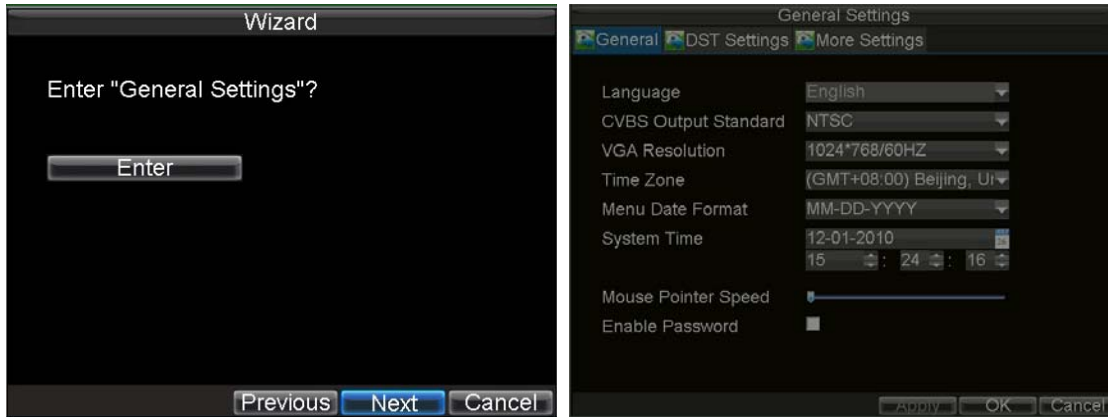

Figure 4. General Settings
5. Click the Next button. This will take you to the **General Settings** dialog box, shown in Figure 4.